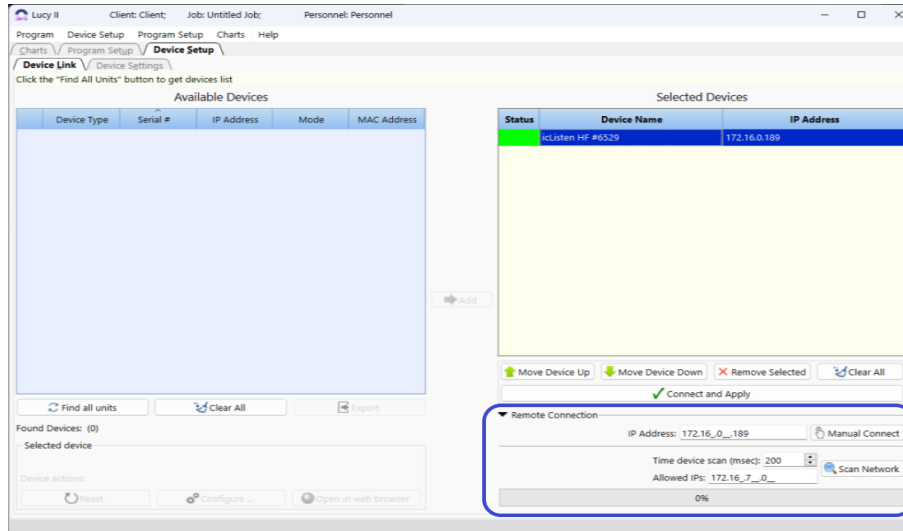

Figure 6-1 Remote Connection panel
2. Select **“Lucy Setup”**, then **“Link Setup”** (Figure 6-1).
7. Click **“Scan Network”** button (Figure 6-1).